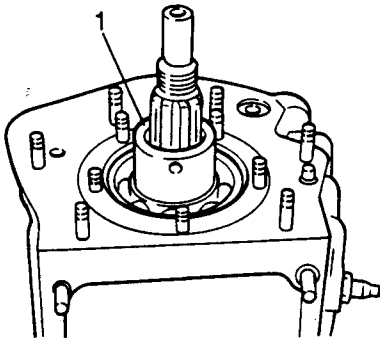

Fig H1.57
- (3) Refer to Fig H1.57. Using special tool RO1004 remove the spacer bush (1) and inspect the outer surface for wear produced by the oil seal. If this exists, a new spacer bush must be fitted.